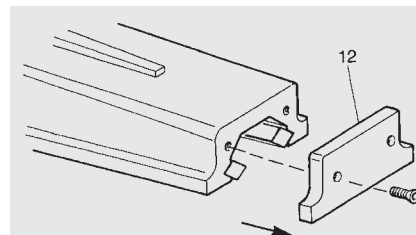

Fig.7
Remove lid (12) from the arm end (see fig. 7).